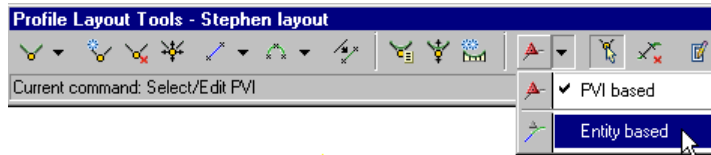

Figure 6-83 Selecting the **Entity based** option from the **Profile Layout Tools** toolbar
1. Choose the down-arrow on the right of the **PVI based** button in the **Profile Layout Tools** toolbar and choose the **Entity based** option from the flyout, as shown in Figure 6-83.